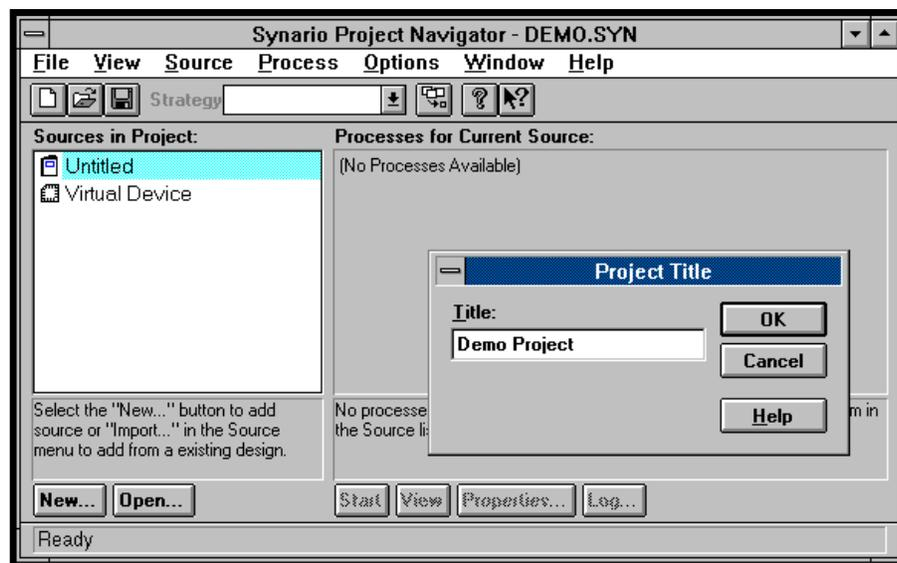

Figure 1-3. Synario Project Navigator and Project Title Box
4. In the Project Navigator, there are two sources: **Untitled** and **Virtual Device**. To name your project, double-click on **Untitled**. A Project Title dialog box appears. Type **Demo Project** in the **Title** field, then click **OK** (Figure 1-3).